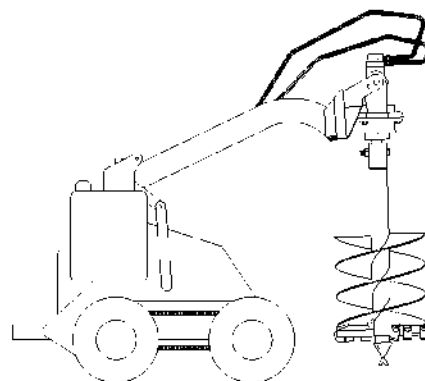

Figure 8
11. Raise the auger free of the ground (Fig. 8).
12. When the auger is vertical, tilt the attachment plate rearward, until the drive head contacts the attachment plate to stabilize the auger and keep it from swinging freely (Fig. 8).